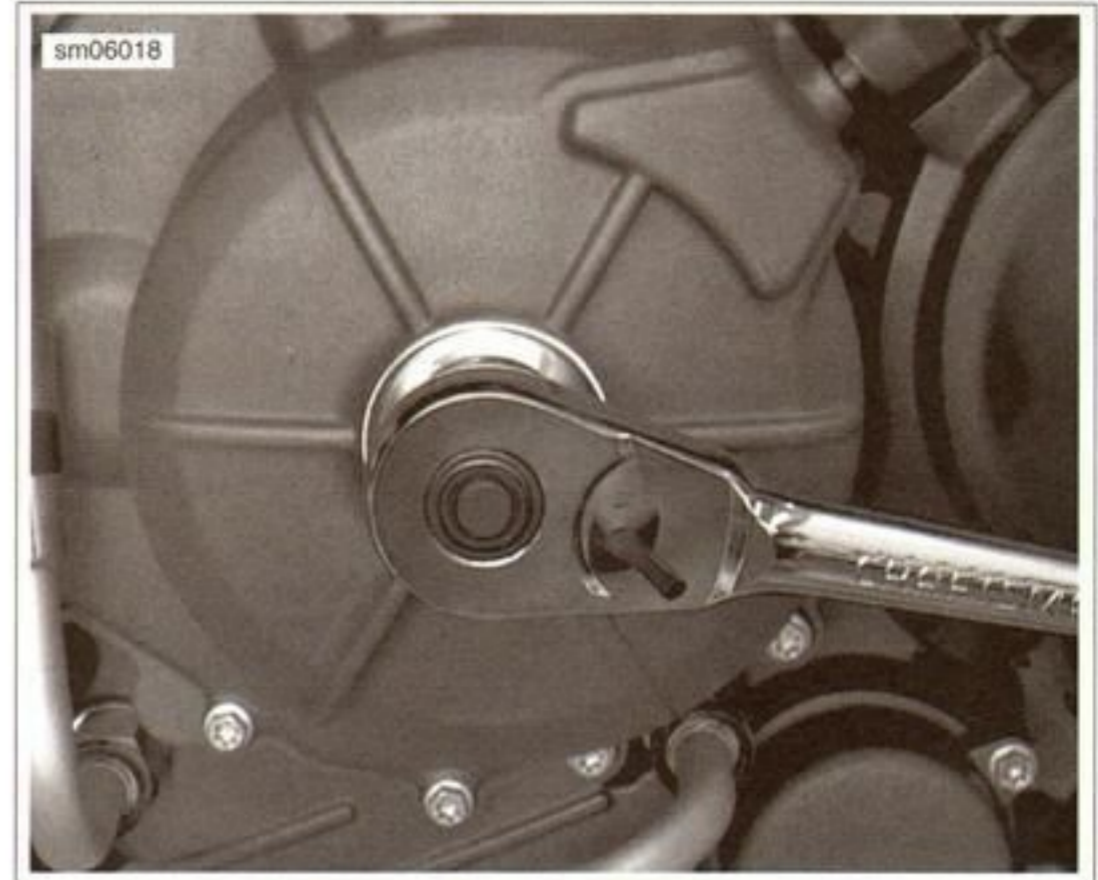

Figure 1-56. Turning Engine
- See Figure 1-56. Turn engine by rotating rotor fastener on end of crankshaft.